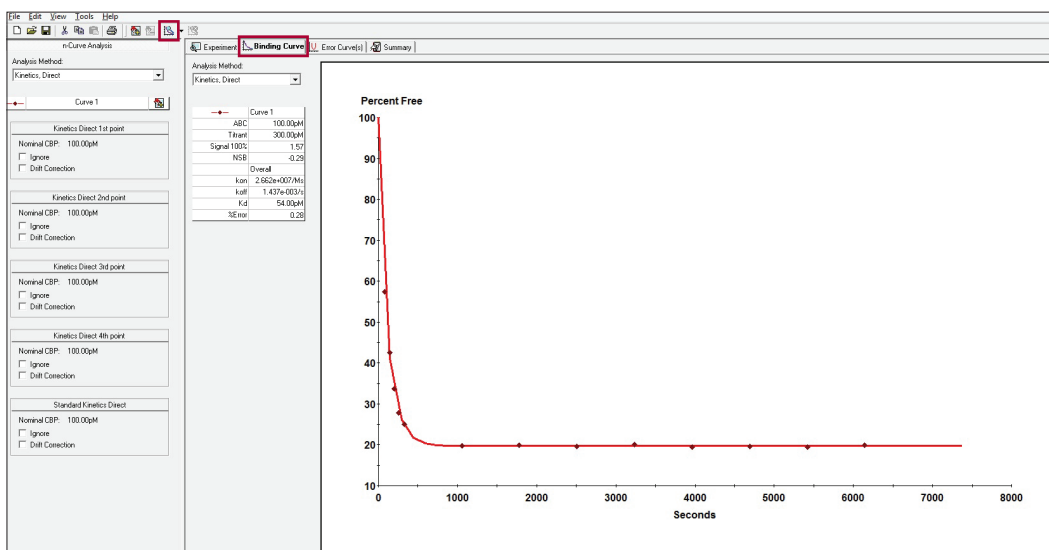

Figure 4C. Results of combined Manual Kinetics Direct and Standard Kinetics Direct.
- Once all additional points are added, select **Analyze**  and the results will be seen under the *Binding Curve* tab (**Figure 4C**).